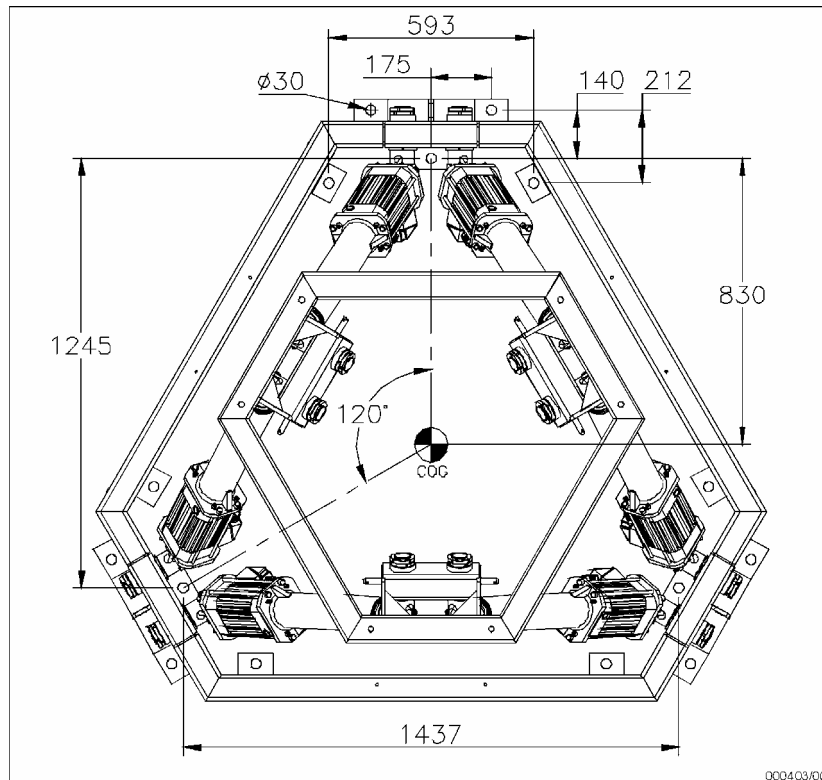

Figure 2 : Motion base mounting holes
- Fixings to suit the floor material. The motion base has fifteen holes in the base frame that must all be used. Refer to Figure 2 for the hole layout.